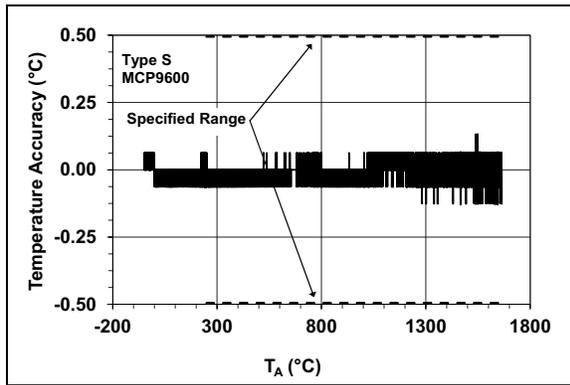

FIGURE 2-7: Typical Temperature Accuracy from NIST ITS-90 Database, Type S.
- 3** The device measures temperature below the specified range, however, the sensitivity to changes in temperature reduces exponentially. Type R and S measure down to -50°C , or -0.226 mV_{EMF} and -0.235 mV_{EMF} , respectively. Type B measures down to 500°C or 1.242 mV_{EMF} (see Figures 2-7, 2-8, 2-10, 2-11, 2-14 and 2-17).